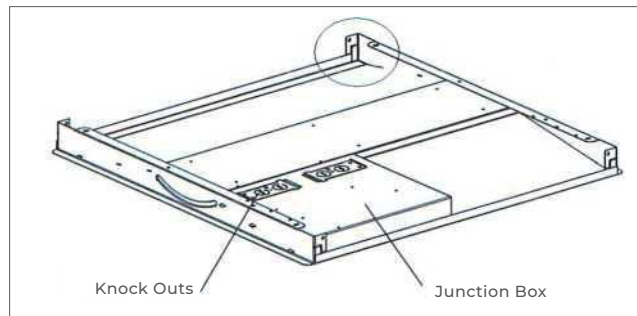

FIGURE 1
- A)** Locate hooks at the corners of the fixture. Bend 90° so that the hook is perpendicular to the troffer. (Figure 1)